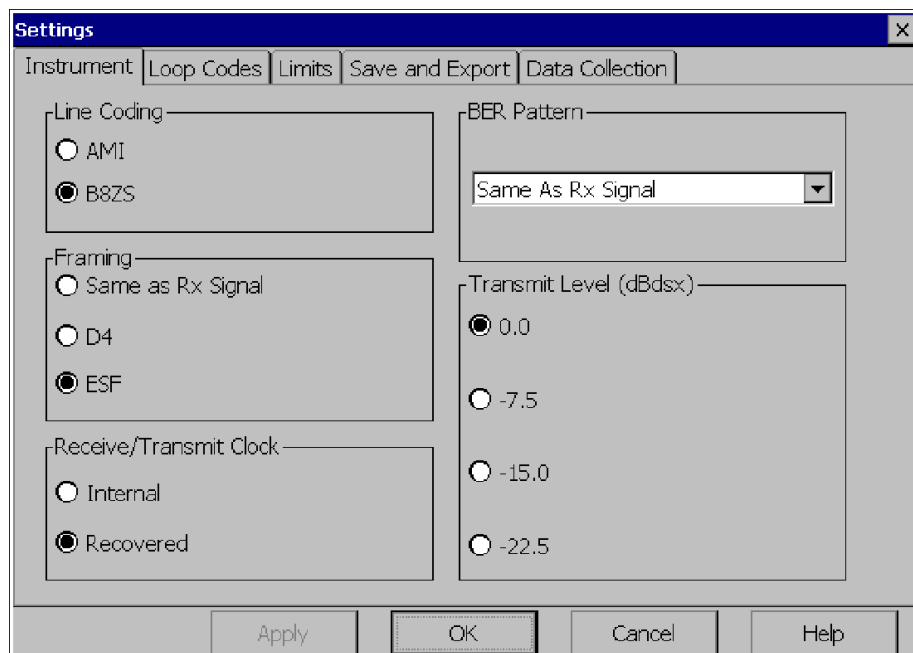

Figure 3-7: Option T1 Instrument settings dialog
2. Tap the **Instrument** tab if not already selected. Figure 3-7 shows the available instrument settings for Option T1.